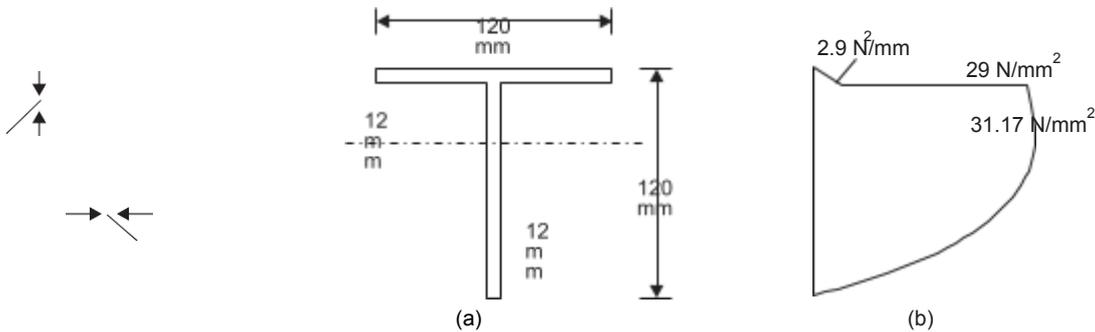

Fig. 20
**Example 8.** A beam has cross-section as shown in Fig. 20(a). If the shear force acting on this is 25 kN, draw the shear stress distribution diagram across the depth.